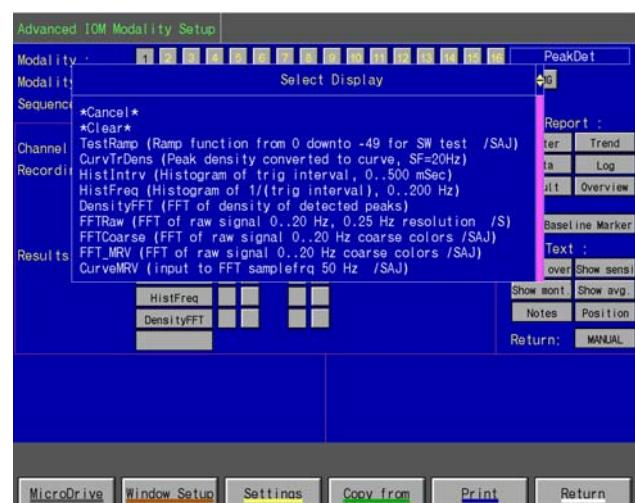

Figure 102 The Select Display Selection List
**Results:** up to 5 analysis results may be selected per free running channel. Each of these analyses is selected by clicking in a box below **Display ID**. The Select Display List Box appears, see Figure 102 The Select Display Selection List below. From this list, you can select between the various types of analysis listed. Click **cancel** to return without changing the analysis, or click **clear** to clear the field.